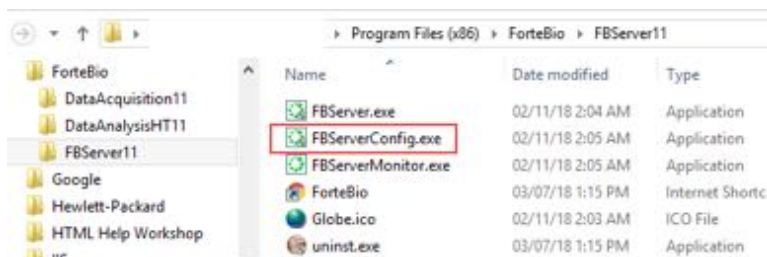

Figure 4-78: Accessing the ForteBio FB Server Configuration Module on the Network
- Double-click on the **FBServerConfig.exe** file in the FBServer folder in the installed location (Figure 4-78):